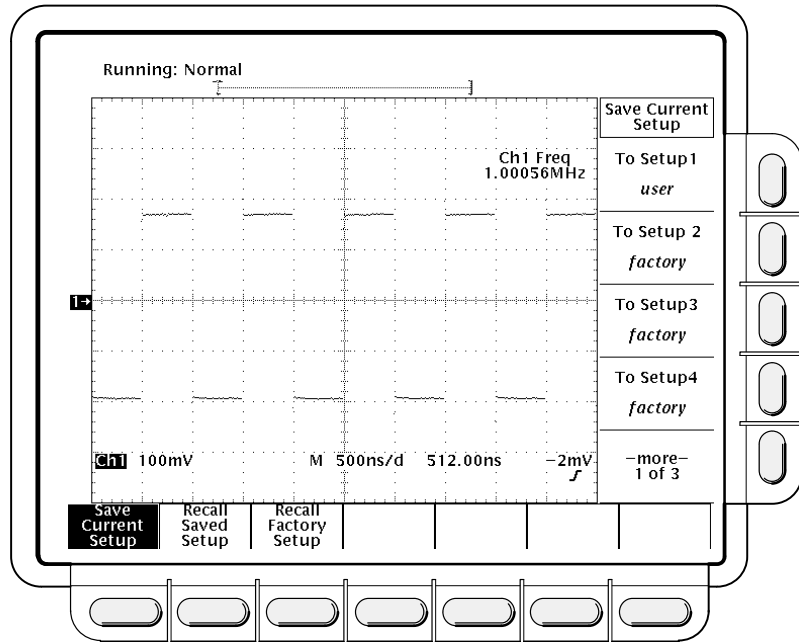

Figure 1-19: Save/Recall Setup Menu
3. Press the **SETUP** button to display the Setup main menu (see Figure 1-19). Press the **Save Current Setup** main menu button.